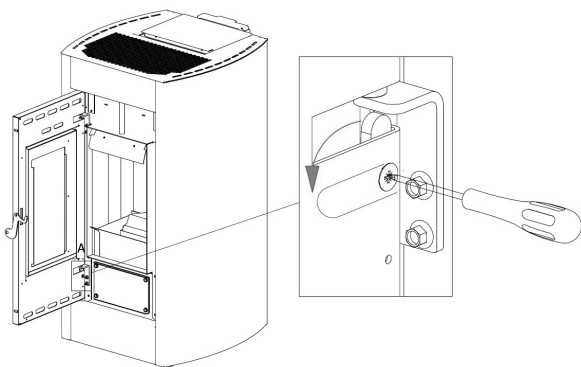

Fig. 32 - Remove screws
- Use a screwdriver to rotate the lever in the direction of the arrow (see **Fig. 32**).